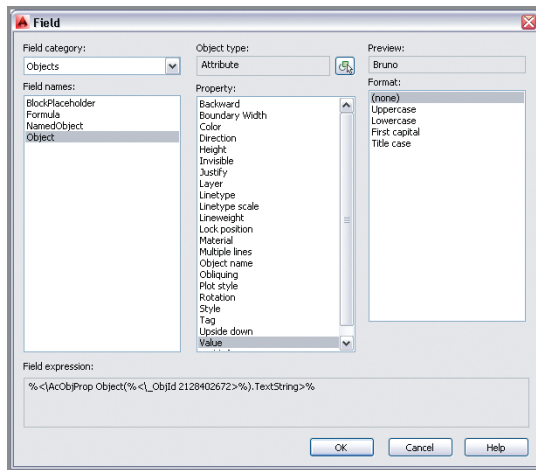

FIGURE 15.23 Accessing the attribute value in the Field dialog box
4. Select Value in the Property list that appeared after selecting the attribute in the previous step (see Figure 15.23). Click OK. The word Bruno appears in table cell A3.